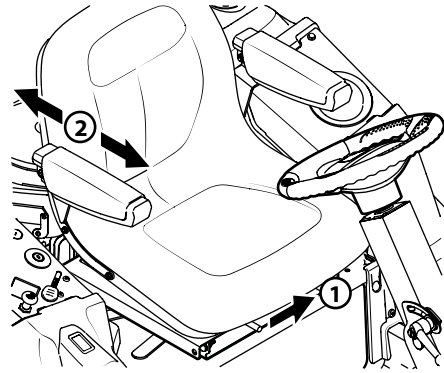

**Figure 2-5**
1. Remove the carriage screws (a) and flange lock nuts (b) installed on the mounting bracket (c) on the deck. See Figure 2-5.
2. With the previously removed hardware, install the chute deflector on the deck as shown in Figure 2-5.